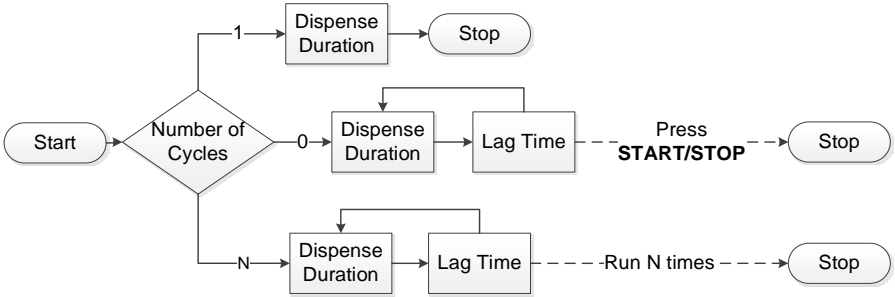

Figure 17. Dispense Cycle Setting
**Note 5. Cycle:** Number of cycles under the Time Dispense mode. The range is 0-999 cycles. If it is set to 0, the dispensing process will keep running until **START/STOP** is pressed. Otherwise, the pump will only stop when it finishes dispensing the set number of cycles (*Figure 17*).